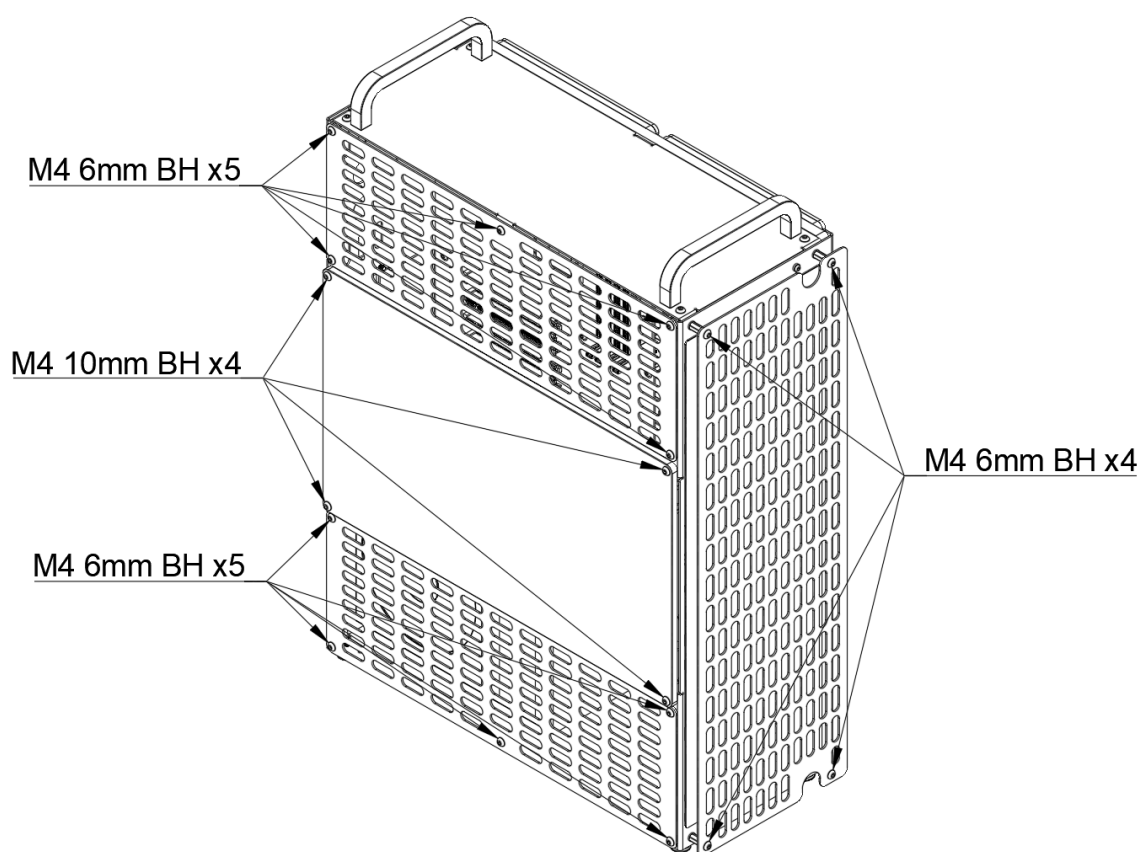

Figure 8
- **Step 8:** Install the covers or vents to the front and side of the case with M4 6mm BH x14 total according to *Figure 8*.
- Step 9 (Water-cooled Vertical GPU): Install the side window with M4 10mm BH x4 according to *Figure 8*. Note: if an air-cooled GPU is used or it is mounted horizontally then go to *Step 10* instead.